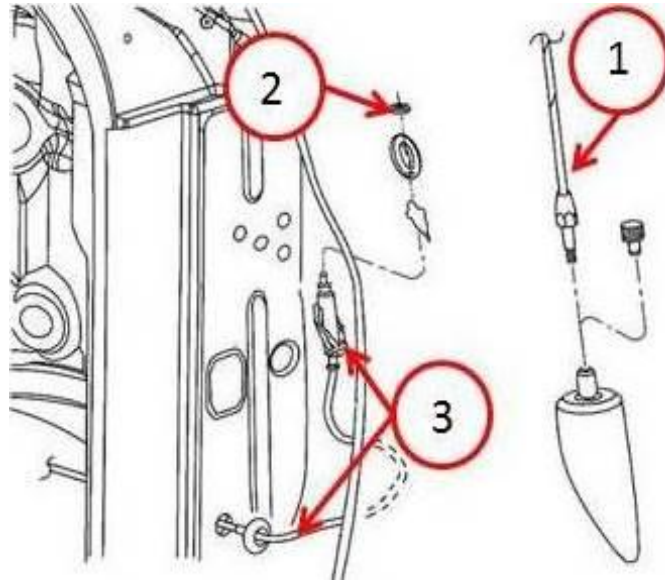

Fig. 9 Antenna Mast Base and Cable Assembly
19. Install the antenna mast (Fig. 9).